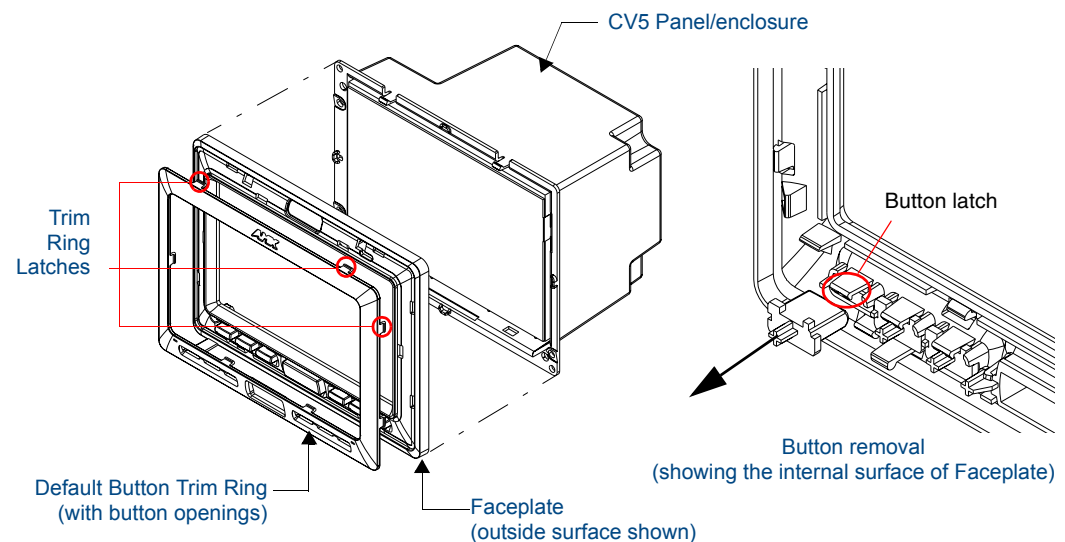

FIG. 9 Removing the default Button Trim Ring
2. Turn the Faceplate over to expose the inside surface and view the Trim Ring latches (FIG. 9).
4. Gently tug along the edges of the Button Trim Ring and work your way around the edges to remove it from the Faceplate (FIG. 9).